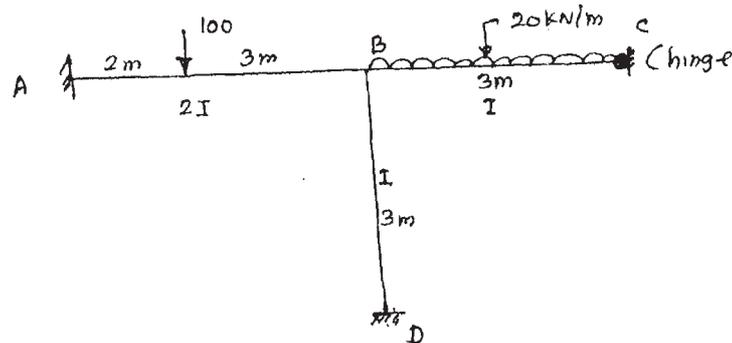

Fig. 9
- (b) Analyse the frame shown in Fig. 9 by matrix displacement method.